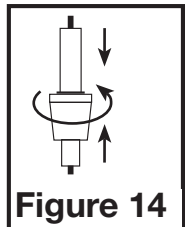

Figure 14
- Follow the steps in **SECTION 5** *Wiring* to gain access to the fuse holder located inside the wire compartment. To replace the fuse, squeeze the top and bottom of the fuse holder together while twisting the larger piece in a direction away from the tabs (**Figure 14**). Replace fuse only with 0.5 Amp, 250VAC, 5 x 20mm, Fast Acting fuse. Reconnect the fuse holder by lining up the top and bottom section and squeeze together while twisting until they are locked in place. Carefully tuck back into the wire compartment and reinstall the wire compartment cover.